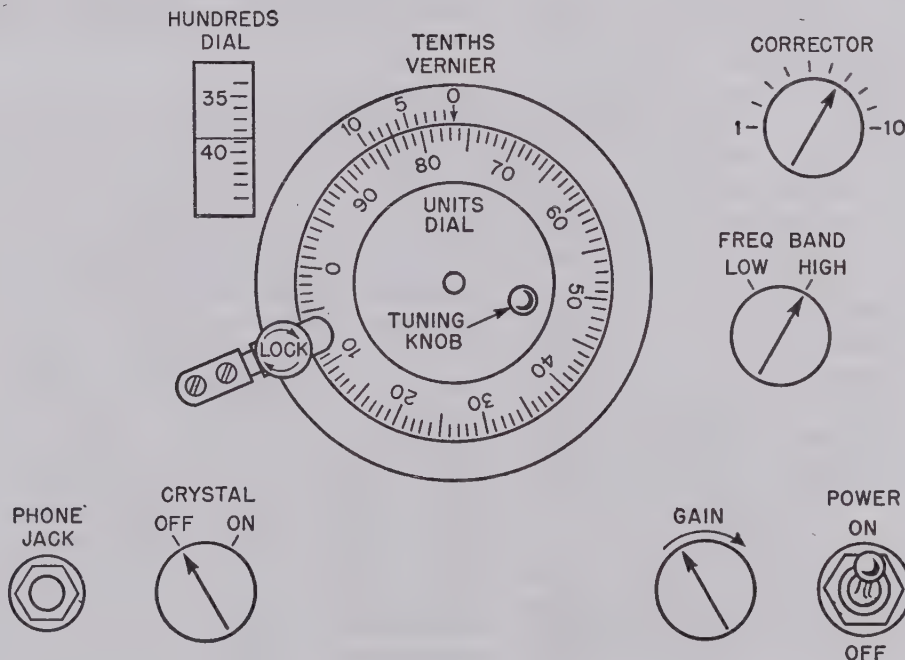

Figure 11 Typical control panel of heterodyne frequency meter.
- (1) The control panel of a heterodyne frequency meter is shown in figure 11. When the LOCK screw is loosened, the tuning knob can be rotated to obtain various settings on the dial. The dial is calibrated in hundredths, units, and tenths for accurate readings. Rotating the dial changes the resonant frequency of the variable-frequency oscil-
- (2) The dial setting in figure 11 can be read in the following manner: The thin line marked on the window of the HUNDREDS dial indicates the *approximate* reading of the dial. Since
it is situated between 3,800 and 3,900, the ultimate dial reading must lie between these numbers. The reading on the UNITS dial is read directly below the arrow on the TENTHS vernier. To obtain the reading, which lies between 76 and 77, the TENTHS vernier must be read. The tenths value is obtained from the dial by finding the line on its scale which coincides most closely with a line on the UNIT dial. The value of .7 on the TENTHS dial corresponds with 83 on the UNIT dial; therefore, the reading obtained on the dial setting shown in figure 11 is 3,800 plus 76 plus .7, or 3,876.7. The frequency reading that corresponds to this number must be obtained from a calibration book which is included with each frequency meter.